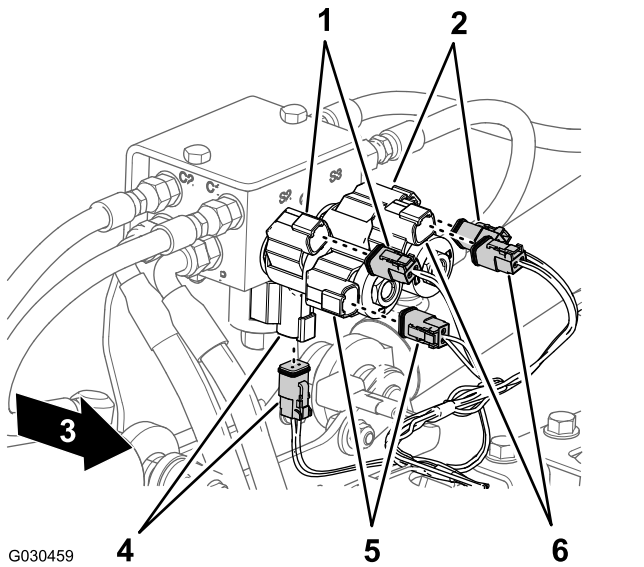

Figure 26
- At the back of the machine, disconnect the following 2-socket connectors (Figure 26) for the lift-cylinder manifold as follows: